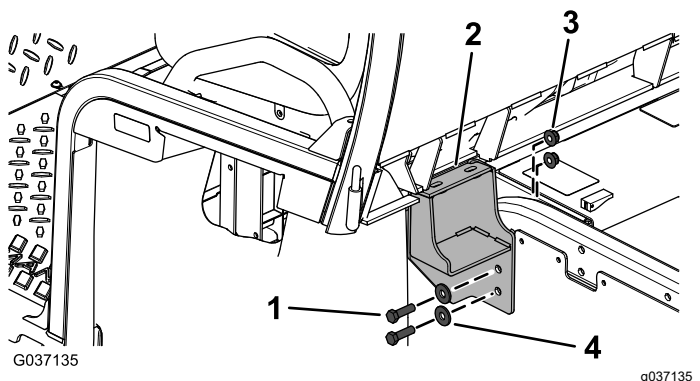

Figure 7
9. Loosely attach the left and right cab supports to the machine using the hex-head bolts (3/8 x 1-1/4 inch), washers (3/8 inch), and flange nuts (3/8 inch) as shown in Figure 7.
- Tighten the left and right supports, and torque the bolts to 58 N·m (43 ft-lb) as shown in Figure 7.